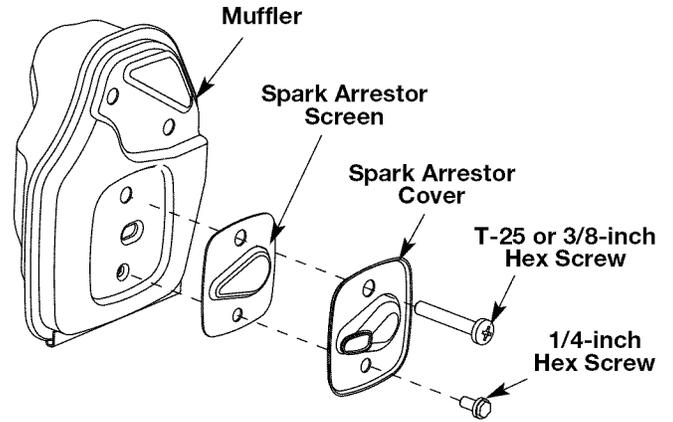

Fig. 34
- wrench, remove the screws attaching the spark arrester cover to the muffler (Fig. 34).